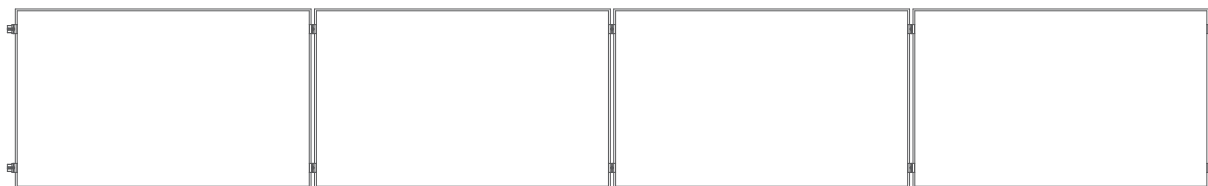
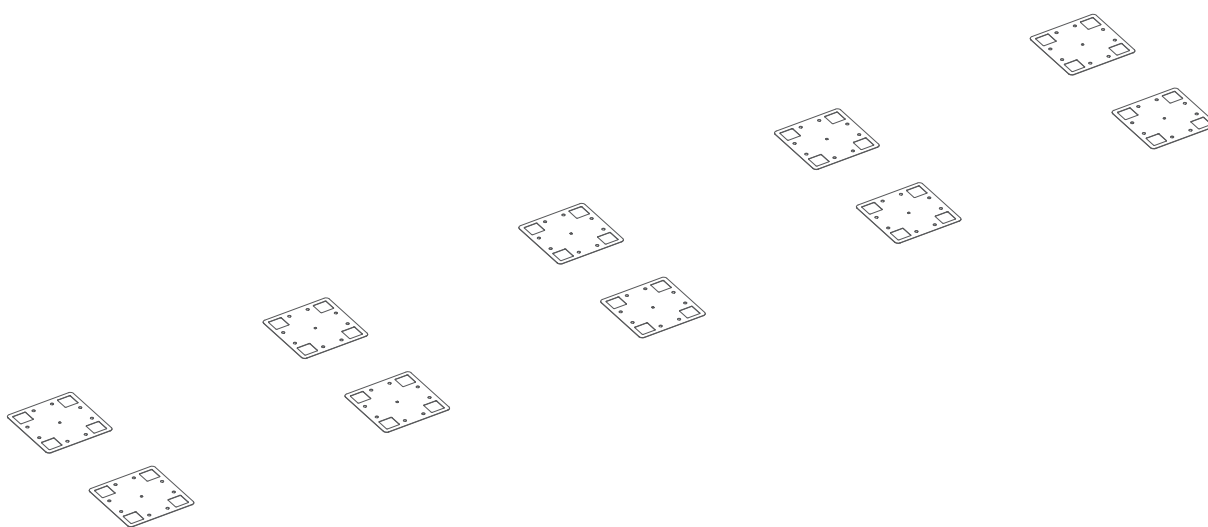

Fig. 1 Modular structure plan
Fig. 2 Arrangement of the mounting plates
- 1 Before mounting, the installation plan for the modules (Fig. 1) and the mounting plates (Fig. 2) must be determined. The way of fixing the mounting structure on the roof field depends on the type of roof and is chosen individually.